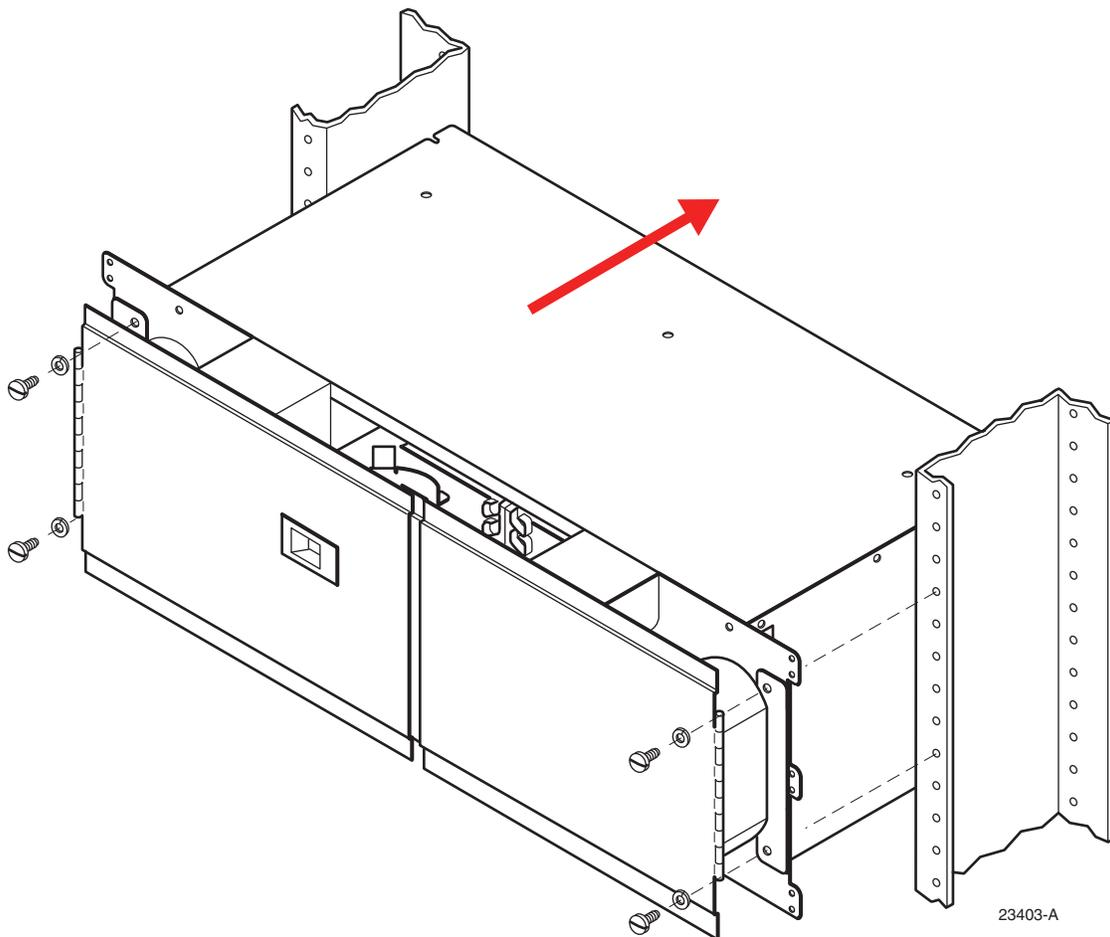

Figure 4. Installing Connector Module on Frame (Cable Not Shown)
5. Align the mounting holes of the connector module with the threaded mounting holes in the frame, as shown in Figure 4.
7. Align the mounting holes of the connector module with the threaded mounting holes in the frame, as shown in Figure 4 on Page 5.